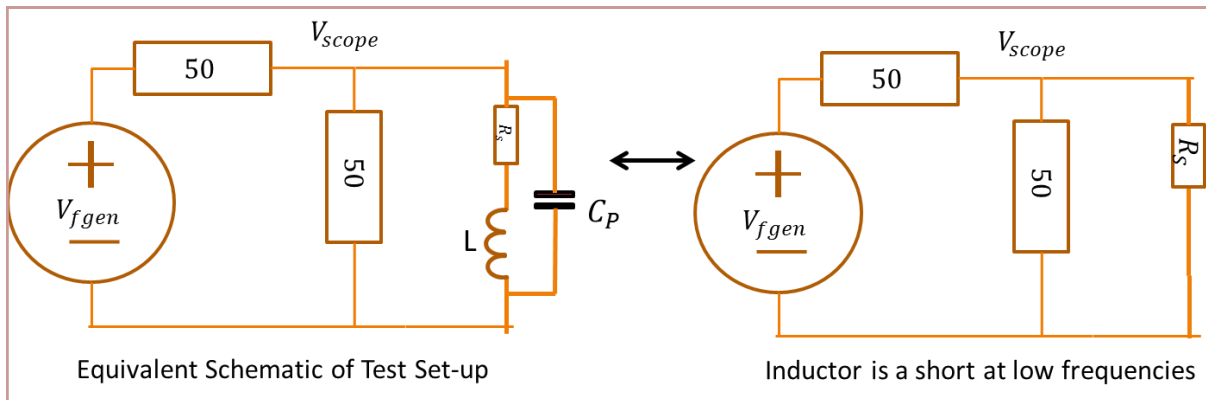
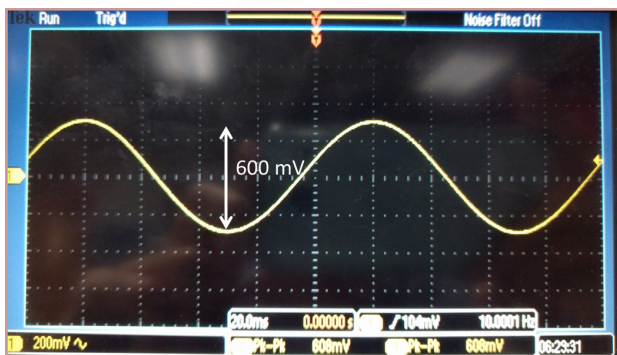

Figure 11. Equivalent schematic of test set-up.
Figure 12. Voltage across inductor at 10 Hz with a 2V p-p input. 600 mV indicates a very high series resistance.
3. Set the function generator to a very low frequency such as 10 Hz. At this frequency, the inductor should appear to be a short. However you will see some small voltage appear on the oscilloscope. Use the peak-to-peak measurement on the oscilloscope and use the value to calculate the series resistance of the inductor. Use the schematic in Fig. 11 to calculate the series resistance. Assume that the capacitor is open and that the inductor is a short leaving the series resistance. Next find the Thevenin equivalent and use that to calculate what value of load resistance would result in the measured output voltage. Fig. 12 shows the voltage developed across an inductor at 10 Hz. With a 2 V p-p input the output is 600 mV which is quite high. This indicates a high series resistance. Your inductors may have significantly lower series resistance and you may need to use the lowest oscilloscope vertical setting to see the waveform. **(Photos and Hand Calc)**